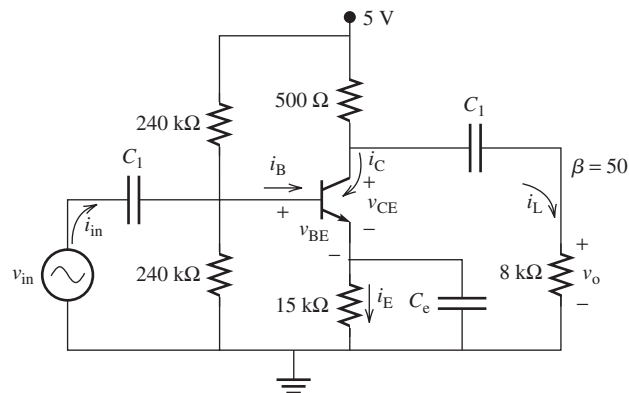

FIGURE P8.50 Circuit for Problem 8.50.
- 8.50 (H) For the circuit shown in Figure P8.50, find A_v , A_i , R_i , and R_o .